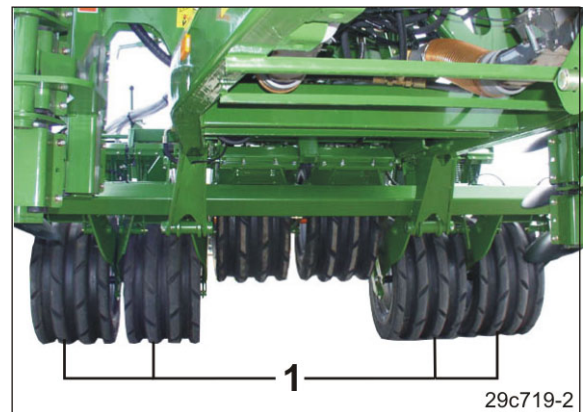

Fig. 171
3. Raise the machine fully by moving the integrated running gear (Fig. 171/1) out completely.